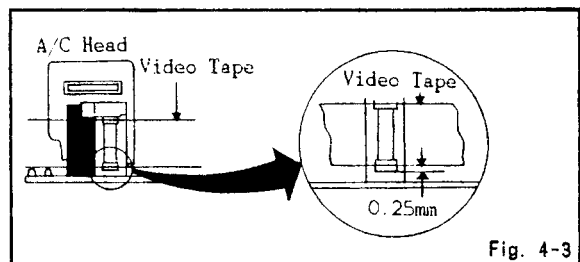

Fig. 4-3
3. Adjust the nut ③. (Refer to Fig. 2-2) until the height of the A/C head reaches the position against the tape as shown in Fig. 4-3.